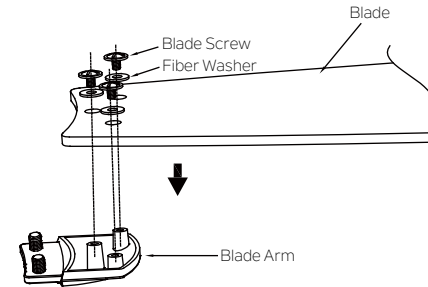

Fig. 19
Step 1. Position the blade over the blade arm with threaded posts showing. Make sure the bottom edge of the blade is fully seated against the blade arm. With a Philips screwdriver, start a blade screw and fiber washer into the blade arm (do not tighten) and repeat for the 2 remaining blade screws and fiber washers. Tighten each screw securely starting with the center screw. Make sure the blade is straight. Repeat steps for the remaining blades. (Fig. 19)